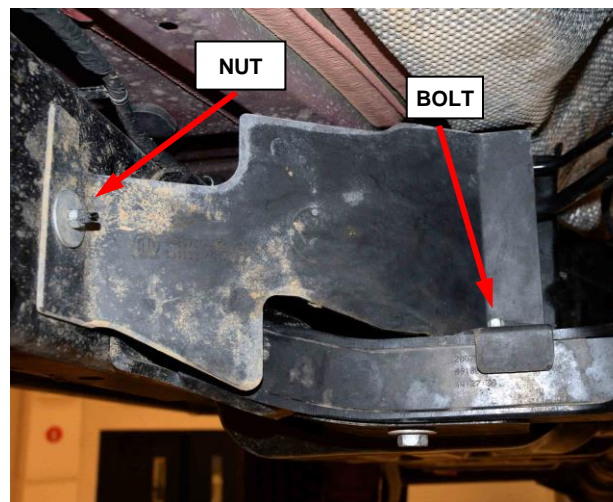

Figure 8 – Fuel Tank Shield Deflector Fasteners
16. Remove the nut and bolt and remove the shield deflector at front of fuel tank (Figure 8).